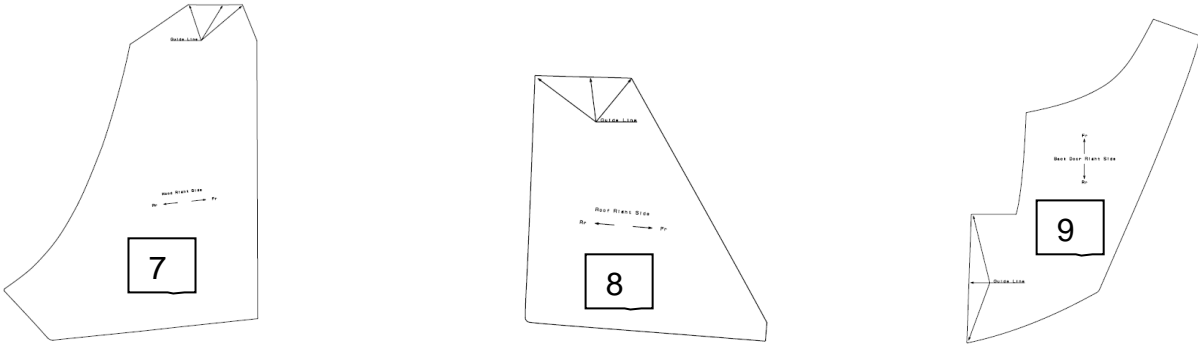

Figure 33
**NOTE:** Figure 33 (7, 8 and 9) are examples of the templates that are included in the Accent Stripe Kits.